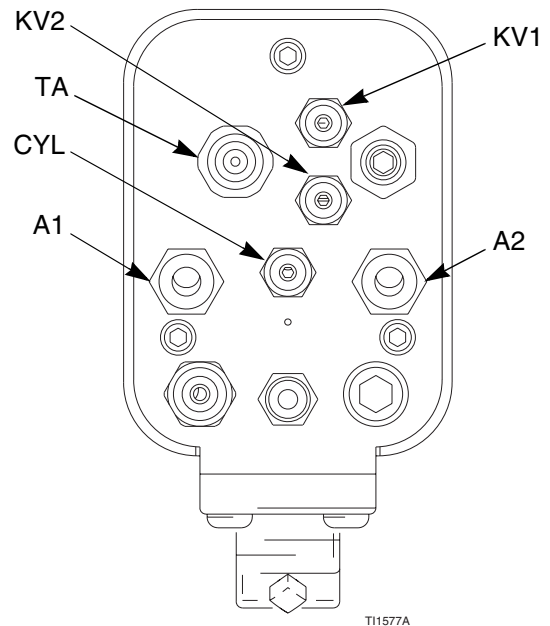

Fig. 12. Manifold Air Connections
4. Use the air pressure regulator on the atomization air supply line (A1) to adjust the degree of atomization. See FIGURE 12. For example, for a fluid flow rate of 10 ounces per minute (0.3 liters per minute), a typical atomization pressure would be 20-30 psi (1.4-2.1 bar, 0.14-0.21 MPa) at the gun manifold.
2. Trigger the gun, then turn on the turbine air (TA). See FIGURE 12.
1. Apply a minimum of 50 psi (3.5 bar, 0.35 MPa) air pressure to the cylinder air fitting (CYL) to activate the on/off sequence of atomization air (A1), fan air (A2), and fluid (P1). See FIGURE 12.
2. Turn the gun functions on and off by using the air solenoid valves on the cylinder (CYL) and turbine (TA) air supply lines.